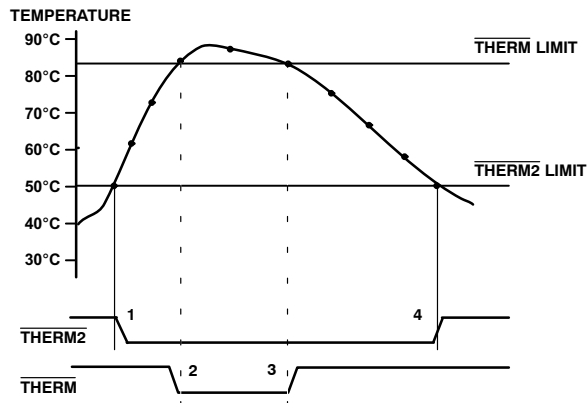

Figure 20. Operation of the THERM and THERM2 Interrupts
Figure 20 shows how $\overline{\text{THERM}}$ and $\overline{\text{THERM2}}$ operate together to implement two methods of cooling the system. In this example, the $\overline{\text{THERM2}}$ limits are set lower than the $\overline{\text{THERM}}$ limits. The $\overline{\text{THERM2}}$ output is used to turn on a fan. If the temperature continues to rise and exceeds the $\overline{\text{THERM}}$ limits, the $\overline{\text{THERM}}$ output provides additional cooling by throttling the CPU.
- The $\overline{\text{THERM}}$ output deasserts (goes high) when the temperature falls to $\overline{\text{THERM}}$ limit minus hysteresis. In Figure 20, there is no hysteresis value shown.